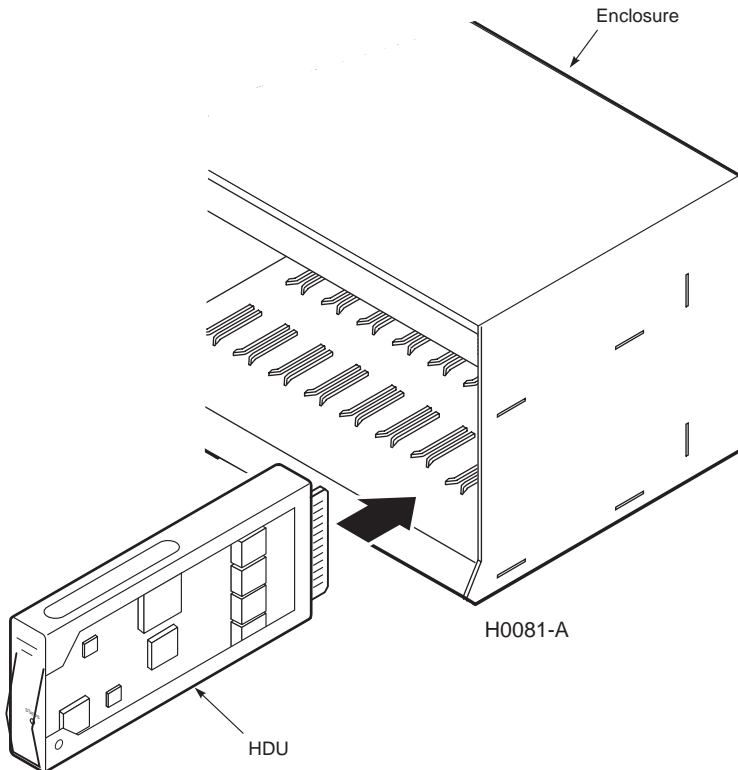

Figure 5. *Installing the HDU-409 in an Enclosure*
- 1** To install the doubler unit, slide the doubler unit into the card guides for the desired slot (see Figure 5 on page 20).